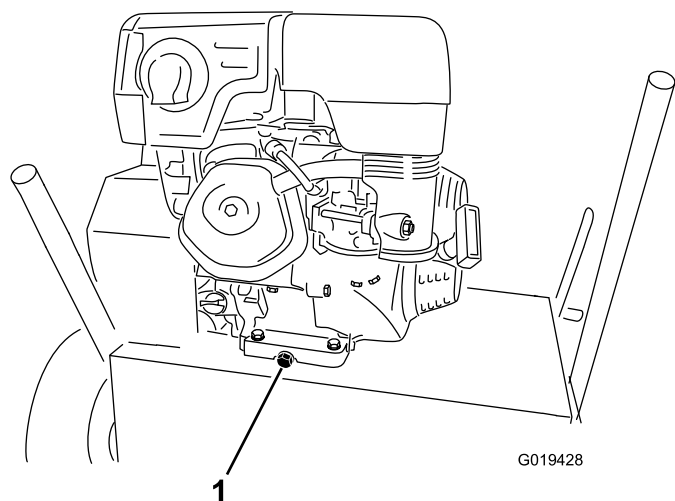

Figure 15
4. Remove the drain plug (Figure 15).